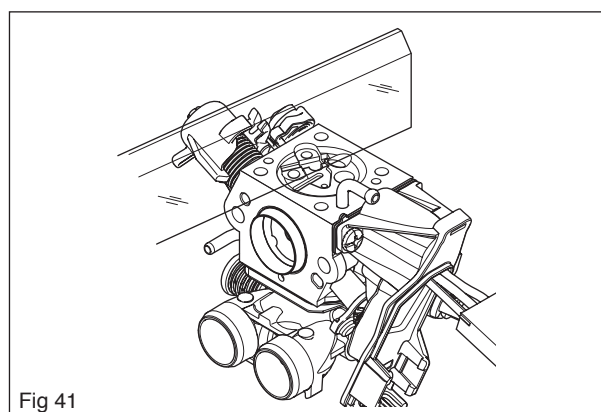

Fig 41
5. Check using a ruler or the like that the lever is level with the assembly plane on the cover. If necessary, the lever arm can be bent, see figure 41.